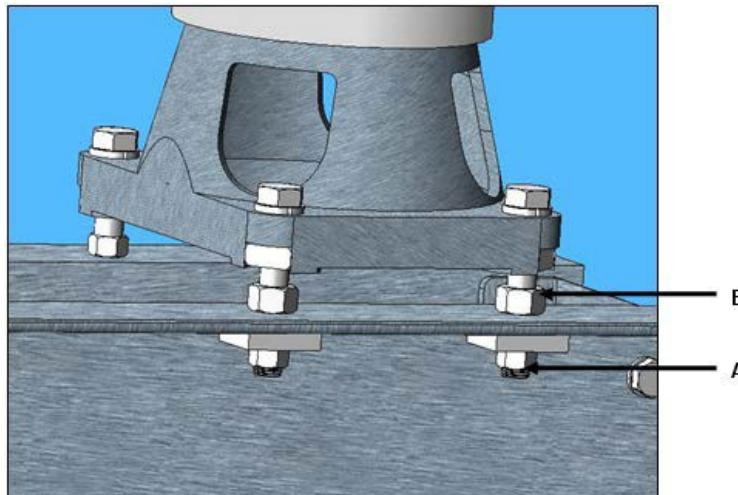
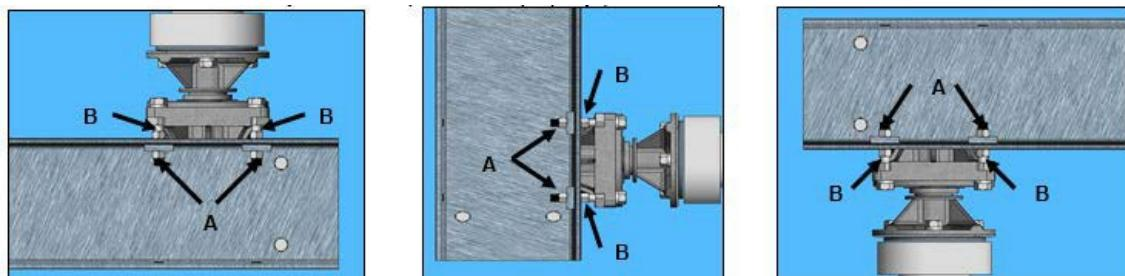

Figure 3: Insulator Stack Alignment
Figure 12: Insulator Stack Adjustment for Various Mounting Positions
- 1.6.1. Always be sure to tighten the bottom hex nuts securely after jackscrew adjustments are complete (**Figure 3**).
4.10.1. Refer to **Figure 3** and **Figure 12**. Adjust both "A" nuts and "B" nuts equally to correct any misalignment.